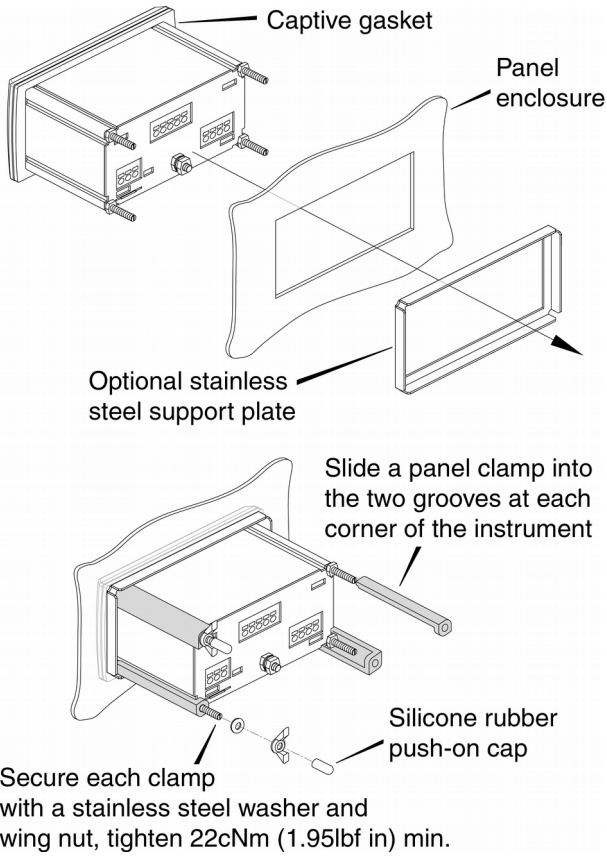

Fig 7 Installation procedure
- Inspect the indicator's captive gasket and ensure that it is not damaged before inserting the indicator into the panel enclosure aperture as shown in Fig 7.